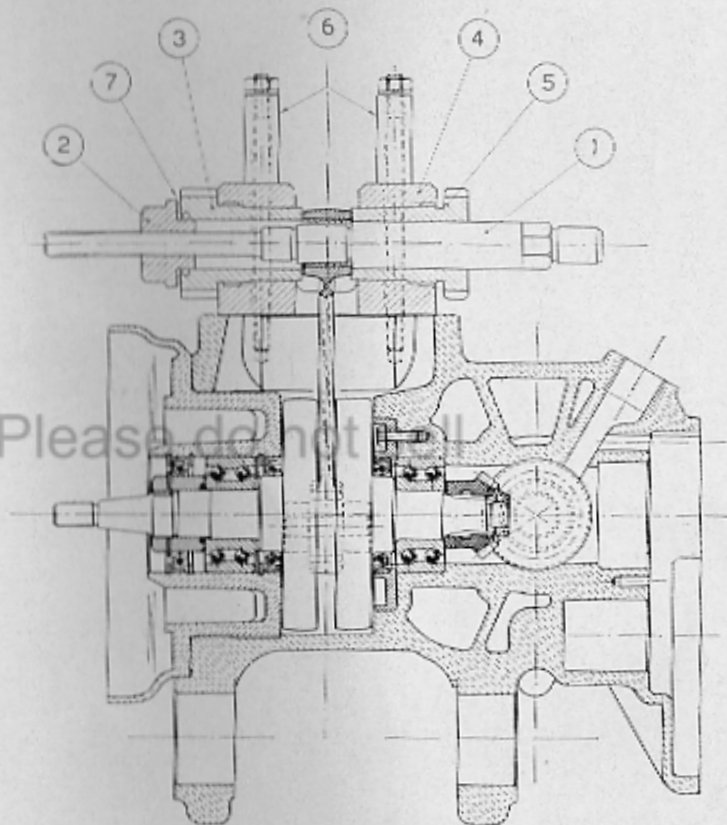

Fig. 39
- Place tool No. 54361 on crankcase as shown in figure 39, after having well cleaned the surface face; rotate crankshaft so that the small end bush centre coincides with that of the tool.
- Fit pin (1); Screw in bush (3); fit washer (7) and nut (2).
- Screw bush (5) until it locks connecting rod.
- Tighten tool gently by means of distance pieces (6) and the four stud nuts.
- Screw nut (2) with 27 mm spanner until small end bush is completely extracted.